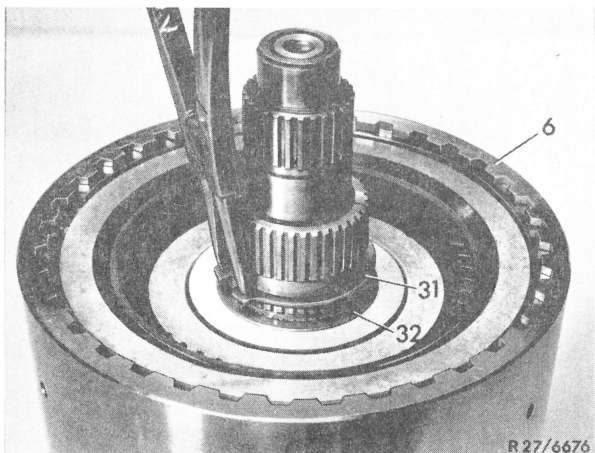

Fig. 5
7 Remove circlip (31) and compensating washers (32) and pull off clutch K 1 (6) (Fig. 5).